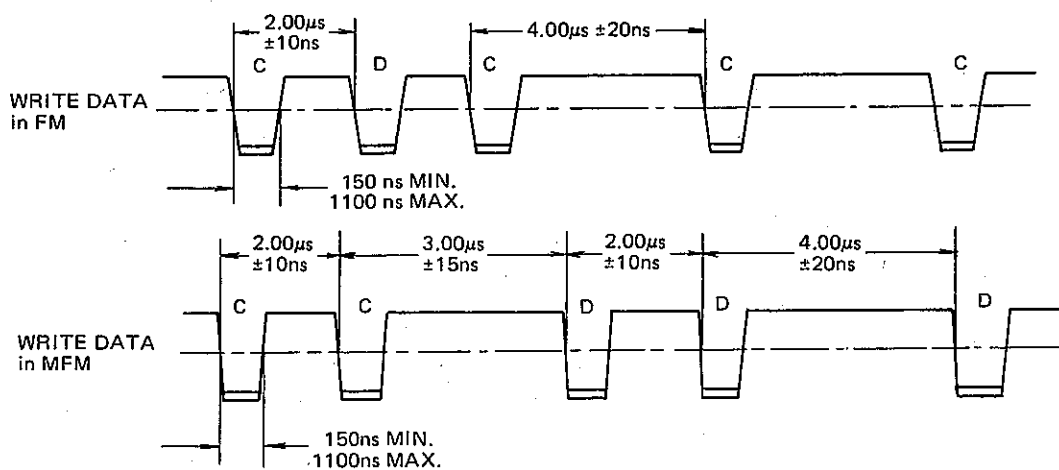

Fig. 3.5 Write Data
There are twelve (12) low active TTL input lines to the YD-180. Ten (10) are standard and two (2) are user installable options. Each line has the following characteristics. Refer to section 3.1.4, Fig. 3.5 for the interface circuits.